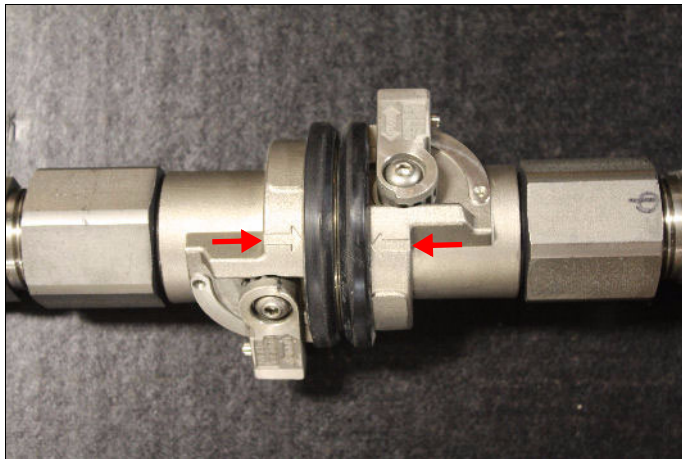

Figure 1-21 Aligned coolant hose connection
4. Rotate the hose connector clockwise until the arrows on the connectors are aligned. See Figure 1-21.
1. After the rack is properly connected to the facility cooling liquid supply, have the facility coordinator open the facility flow valves. Do NOT open the rack supply and return hose ball valves. See Figure 1-21 on page 17.